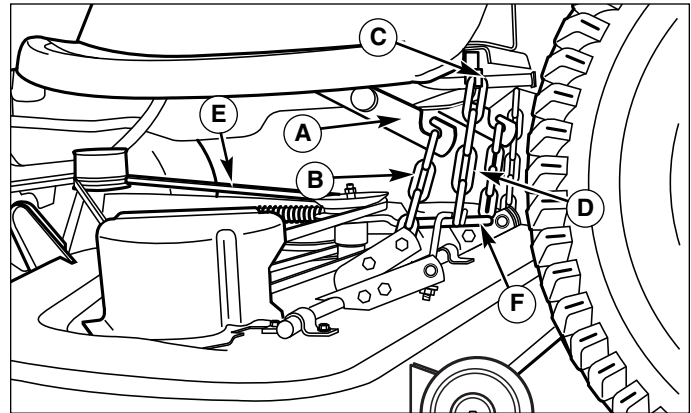

Figure 14. Mower Lift
4. From left side of tractor, use the idler arm (F, Figure 14) to relieve belt tension. Remove the belt (E) from the PTO pulley.
5. Disconnect outside chain (D, Figure 14) from hanger (C). Repeat on other side.
4. Connect the lift chains (B, Figure 14) to the tractor lift hooks (A).
6. Connect outside chains (D, Figure 14) to hanger (C).
7. From left side of tractor, use the idler arm (F, Figure 14) to relieve belt tension. Install belt (E) onto the PTO pulley.